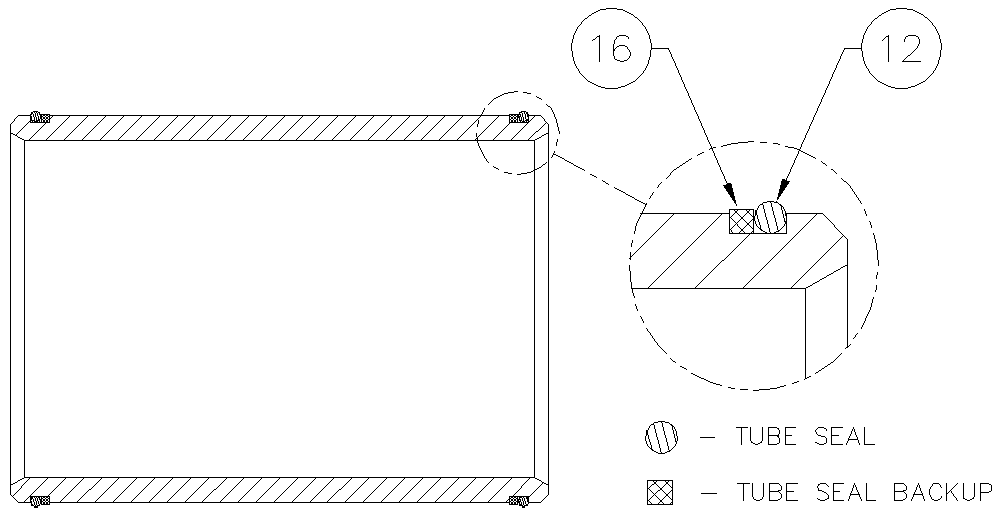
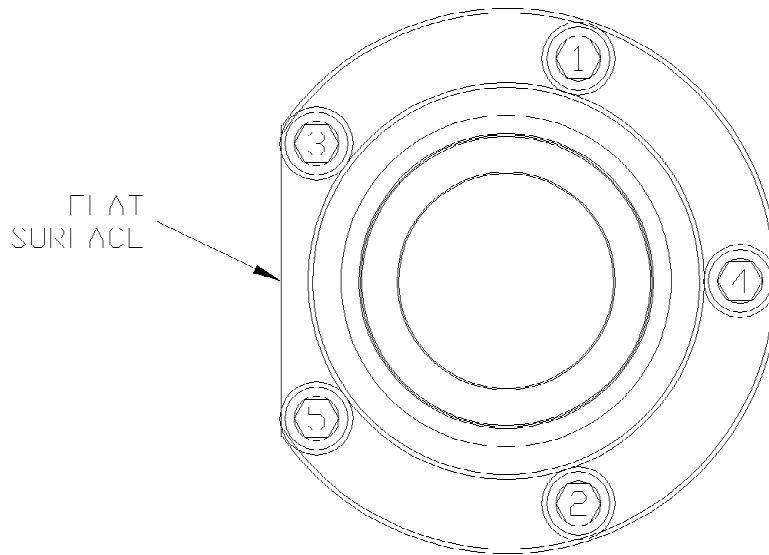
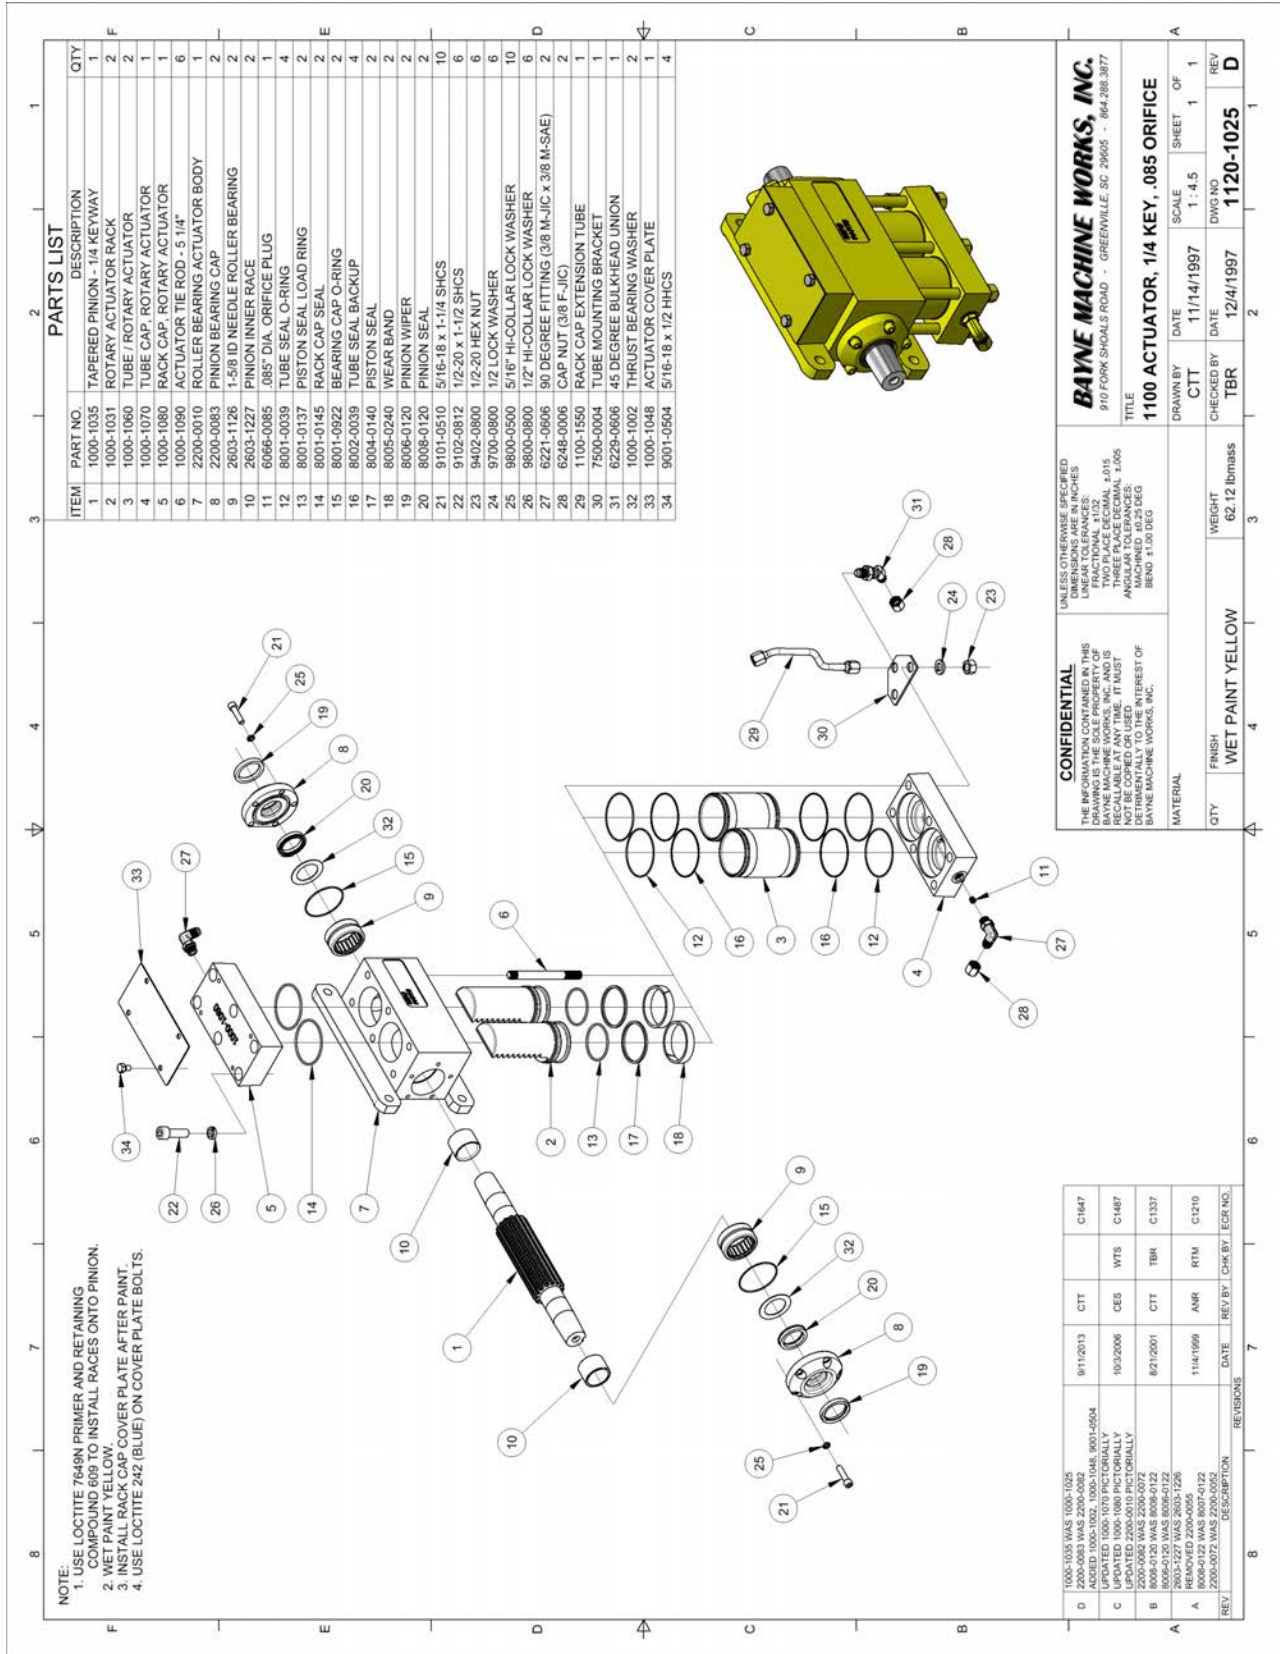

figure A-2
figure A-12
figure A-13
Before starting the assembly of the Rotary Actuator, refer to the exploded parts drawing and parts list (fig. A-13 found at the end of these instructions) to familiarize yourself with the individual components. Prepare a clean surface, in an area free of blowing dust and contaminants in which to assemble the Rotary Actuator. Be sure that all parts are thoroughly clean and dry before starting assembly.
2. Install the tube seal (12) (fig. A-2) and “square” tube seal backup (16) on each end of the actuator tubes (3) (fig. A-13). Be sure that the “square” tube seal backup ring is toward the inside of the tubes at both ends as shown. Press all rings firmly into the grooves. Repeat this procedure for the other tube.
- Coat the head portion of the racks (2) (fig. A-13) with STP Oil Treatment. Install the racks, head portion up with the teeth facing the flanges of the actuator body, into the dual set of bores in the body. Simultaneously slide the racks into the bores so that the racks mesh with the pinion in the same position. Rotate the pinion shaft to engage the racks into the pinion.
7. Coat one end of the actuator tubes (3) (fig. A-13) around the seal area with STP Oil Treatment as shown in figure A-7. Using a rubber mallet, drive the coated end of the tube onto the exposed rack until the tube end seats in the actuator body, making sure that the seals remain in place as the tube enters the counter-bore. Repeat this procedure for the other side.
8. Install the six tie rod studs (6) (fig. A-13) by screwing the short threaded end into the actuator body. Hand tighten only at this time (the torque needed will be applied later in the procedure).
9. Place the tube cap (4) (fig. A-13) on the table. Coat the sides of the two bores in the tube cap with STP Oil Treatment. Install the cap over the tubes and rod studs with the oil port positioned to the left as shown in figure A-13. Using a rubber mallet, tap the tube cap over the tubes until the tubes seat in the cap, making sure that the seals remain in place.
10. Place the tube mounting bracket (30) (fig. A-13) over the two end rod studs opposite the oil port in the tube cap as shown in figure A-13.
11. Install the hex nuts (23) (fig. A-13) and lock washers (24) on the tie rod studs. Torque the nuts to 50 ft-lb. in the sequence shown in figure A-8.
12. Place the rack cap (5) (fig. A-13) bore side up on the table and coat the edge of each bore with STP Oil Treatment. Install the rack cap seals (14) (fig. A-9) in the rack cap.
13. Reposition the actuator on the table mounting flanges down, and the lower tubes facing away from the assembler. Rotate the pinion shaft to allow 1" of the rack to protrude from the top of the actuator body. Install the rack cap with the oil port positioned to the left hand side of the actuator opposite the bottom oil port located in the tube cap as shown in figure A-13. Attach the rack cap to the actuator body using the socket head bolts (22) (fig. A-13) and lock washers (26). Torque the bolts to 90 ft-lb. in the sequence shown in figure A-10.
15. Re-center the actuator pinion in the actuator body by tapping on one end of the shaft with a rubber mallet. Install the roller bearing (9) (fig. A-13), over the pinion shaft and inner race, and into the actuator body. Repeat this procedure for the other bearing.
18. Wrap masking tape or electrical tape around the pinion to cover the edges at the keyway. Slide the bearing cap assembly over the pinion shaft with the bearing cap seal facing toward the actuator body and the flat surface of the flange shown in figure A-12 facing toward the actuator mounting flanges. Press against the bearing cap until the shoulder seats against the actuator body, making sure that the seals remain in place. Install the bearing cap bolts (21) (fig. A-13) and lock washers (25). Hand tighten only at this time. Repeat this procedure for other bearing cap.
19. After both bearing caps have been installed, torque all bearing cap bolts to 30 ft-lb. in the sequence shown in figure A-12.
20. Install the 90° fitting (27) (fig. A-13) into the oil port on the side of the rack cap (5). Hand tighten only at this time.
21. Install the 45° bulk-head fitting (31) (fig. A-13) up through the hole in the tube mounting bracket (30) bolted to the tube cap as shown in figure A-13. The 45° end must be pointing down away from the rack cap (5) and back toward the mounting flanges on the actuator body. Hand tighten only at this time.
22. Install the rack cap extension tube assembly (29) (fig. A-13) between the 90° fitting in the rack cap and the 45° fitting in the tube mounting bracket as shown in figure A-13. Tighten all connections.
23. Install the orifice plug (11) (fig. A-13) into the oil port on the side of the tube cap (4), and install the 90° fitting (27) into the oil port over the orifice plug as shown in figure A-13. Turn the fitting so that it points down away from the rack cap (5) and back toward the mounting flanges on the actuator body and tighten.
24. Install the cap nuts (28) (fig. A-13) onto the open fittings to prevent contamination of the unit until the hoses are installed.
25. Install the actuator cover plate (33) (fig. A-13) onto the rack cap (5) using the cover plate bolts (34). Be sure to use *LOCTITE THREADLOCKER 242* on the cover plate bolts.